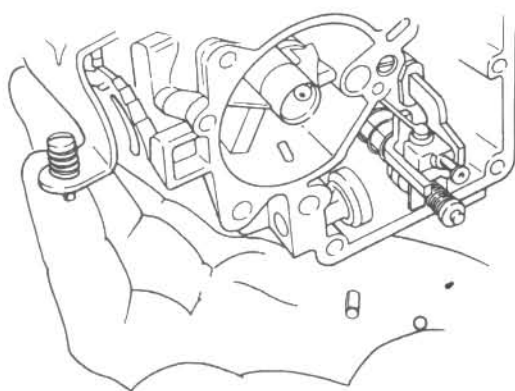

Fig. 4.73 Turn the main body over and catch the pump check ball and weight
- 9 Invert the main body casting and catch the pump check ball and weight as shown in Fig. 4.73.